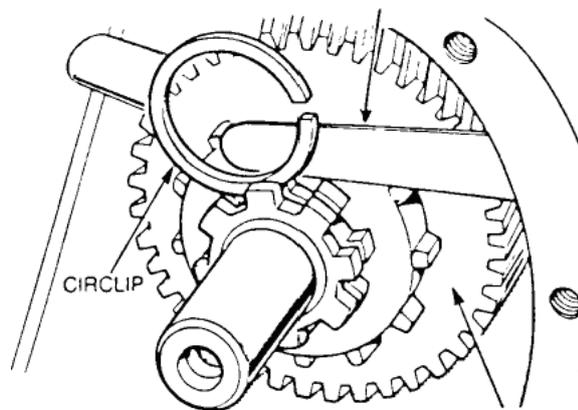

Figure 59 Mainshaft Preload Adjustment
- j.** Secure the transfer gear to the mainshaft with a new circlip and measure the clearance between the circlip and the transfer gear (Figure 59). The maximum clearance between the circlip and the transfer gear is 0.050 mm (0.002 in). To obtain the correct pre-load on the mainshaft, insert a shim of the correct thickness.